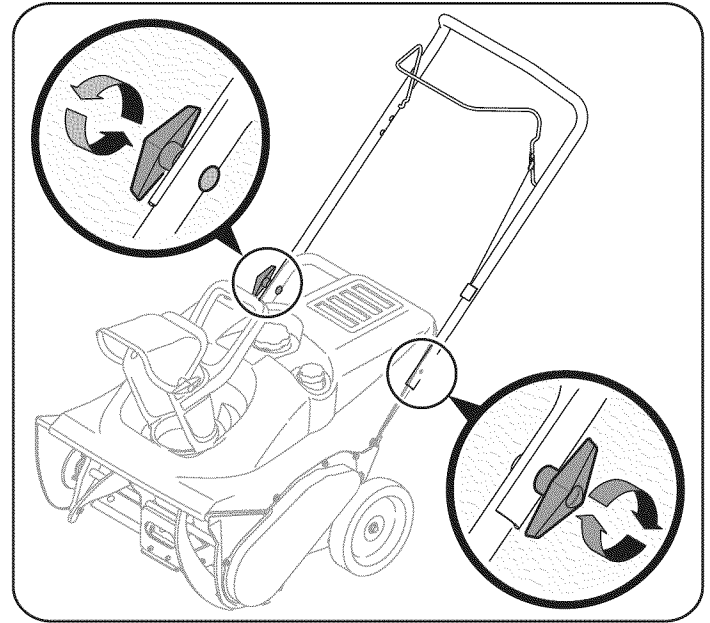

Figure 2
2. Tighten the wing knobs to secure the handle in place. See Figure 2.